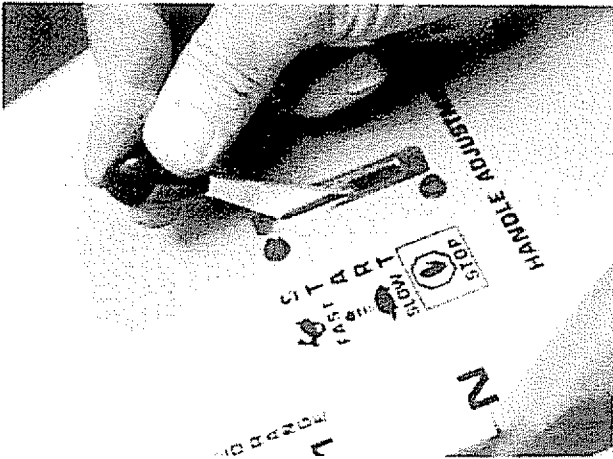

FIGURE 25.
B. Start—Push throttle control lever forward (down) to start position. See figure 25.
2. Place the throttle control lever in FAST position. See figure 25.